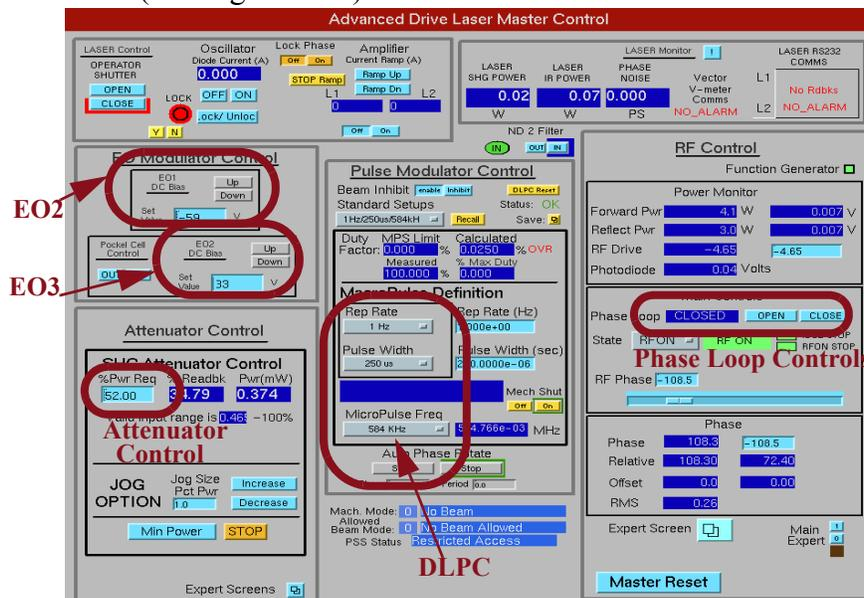

Figure 13-1: Drive Laser Master Control
1. Open the *Advanced Drive Laser Master* screen from **FEL Main Menu**⇒**Drive Laser** ⇒**DriveMaster** (See Figure 13-1).